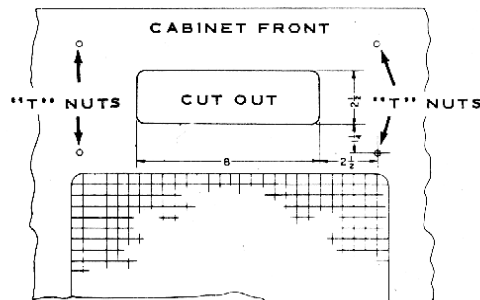

Figure 2. Cabinet Opening
2. On some "Q" models in which no opening has been provided under the Auto-Speed Unit, cut as shown in Figure 2.